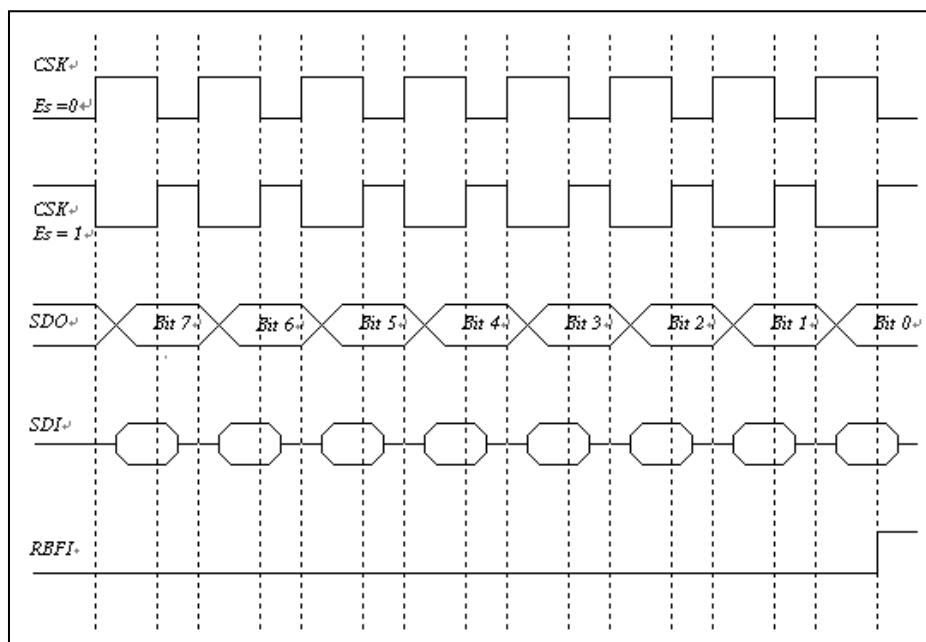
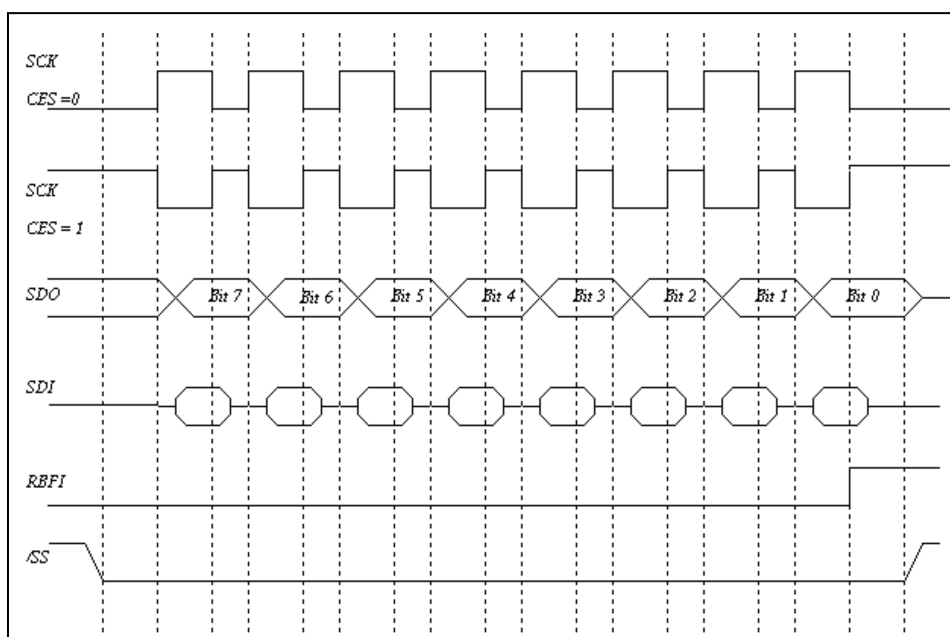

Figure 6-10a SPI Mode with /SS Disabled Timing Diagram
Figure 6-10b SPI Mode with /SS Enabled Timing Diagram
- Timing is shown in Figures 6-10a and 6-10b below.
- Timing is shown in Figures 6-10a and 6-10b.
The SCK edge is selected by programming the bit CES. The waveform shown in Figure 6-10a above, is applicable regardless of whether the eKTF5705 is in Master or Slave mode with /SS disabled. However, the waveform in Figure 6-10b below can only be implemented in Slave mode with /SS enabled.